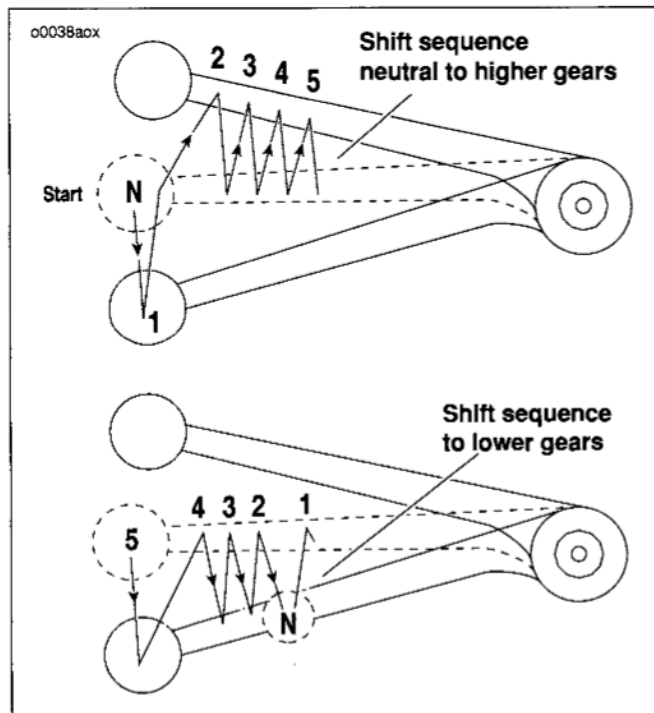

Figure 18. Foot Shifter Lever
- See Figure 18. Pushing foot shift lever all the way down (full stroke) shifts the transmission to the next lower gear.